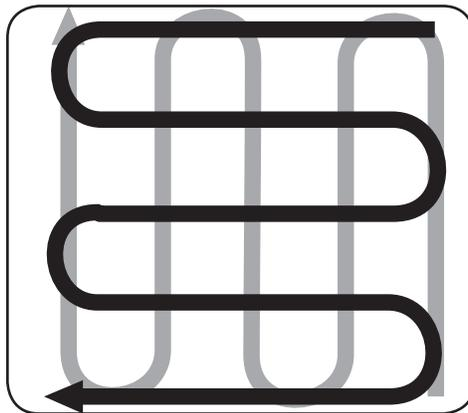

Figure 4-8
- When finished tilling in one direction, make a second pass tilling the same area in the opposite direction. See Figure 4-8. Overlap each pass for the best results. In very hard ground it may take three or four passes to thoroughly pulverize the soil.